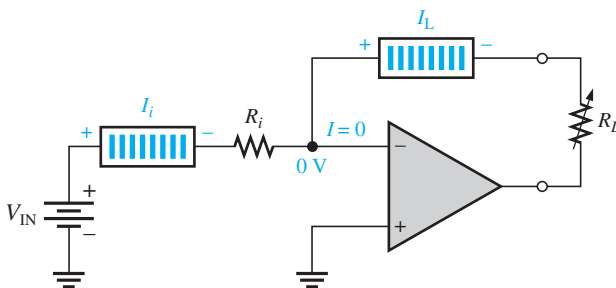

FIGURE 8-34 A basic constant-current source.
A **constant-current source** delivers a load current that remains constant when the load resistance changes. Figure 8-34 shows a basic circuit in which a stable voltage source (V_{in}) provides a constant current (I_i) through the input resistor (R_i). Since the inverting input of the op-amp is at virtual ground (0 V), the value of I_i is determined by V_{IN} and R_i as
1. For the constant-current source in Figure 8-34, the input reference voltage is 6.8 V and R_i is 10 k Ω . What value of constant current does the circuit supply to a 1 k Ω load? To a 5 k Ω load?